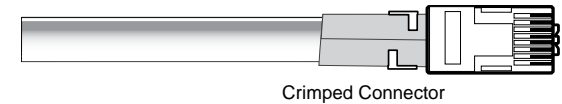

Figure 2-23 — Crimped RJ-45 connector
5. Feed each individual wire into the appropriate slot of the RJ-45 connector and crimp the cable in the normal manner, folding the tangs at the end of the connector over the shielded tape (figure 2-23).